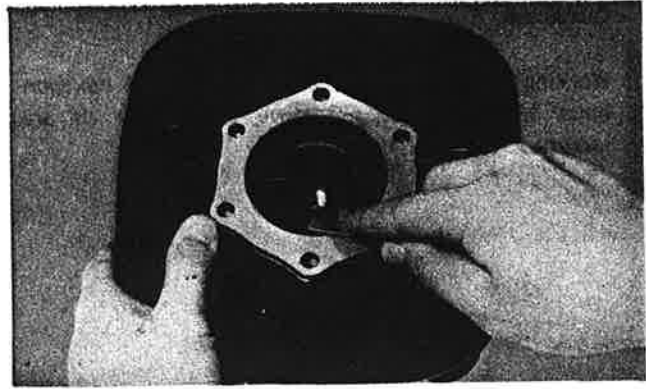

Fig. 3-3-1
2. Using a rounded scraper, remove carbon deposits from combustion chamber. Take care to avoid damaging the spark plug threads. Do not use a sharp instrument; avoid scratching aluminum. (Fig. 3-3-1)